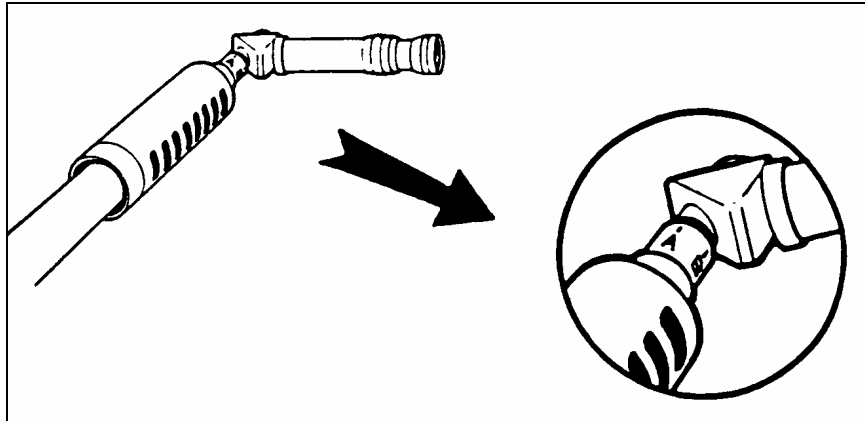

Figure B-37. Mark "A" facing up, telescope to the right.
(1) Record date, time, tester, unit, telescope serial number, adapter assigned number, and test type in information section of scoresheet.
- (2) Insert an accurate 25-mm adapter into the gun barrel with the position mark facing up.
- (3) Insert telescope into adapter with the eyepiece facing right (Figure B-37).
- (4) Record AZ and EL coordinates in the RIGHT AIM-POINT COORDINATES item in the *TEST 1* section of the scoresheet.
- (5) Plot the right aim point on the scoring grid.